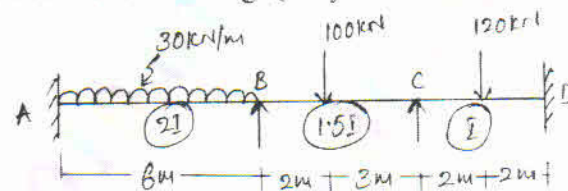

Fig.Q9
- 9 Analyse the continuous beam shown in Fig.Q9 by direct stiffness method. (20 Marks)